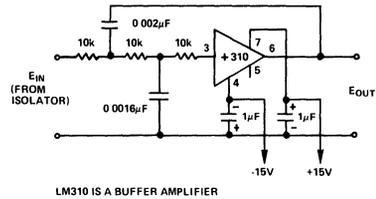

Figure 13. 2-Pole, 5kHz Active Filter
- G = 1V/V, with 2-pole, 5kHz output filter (see Figure 13).
Noise Reduction in Data Acquisition Systems: Transformer coupled isolators must have a carrier to pass dc signals through their signal transformers. Inevitably some carrier frequency ripple passes through to the isolator output. As the bandwidth of an isolator becomes a larger fraction of its carrier frequency, this ripple becomes more difficult to control. Despite this difficulty, the model 289 produces very low ripple; therefore, additional filtration will usually be unnecessary. However, in some applications, particularly where a fast analog-to-digital converter is used following the isolator, it may be desirable to add filtration; otherwise, ripple may cause inaccurate conversions. The 2-pole low-pass shown in Figure 13 limits isolator bandwidth to 5kHz, which is the full power bandwidth of the model 289. Carrier ripple is much reduced. Another beneficial effect of an output filter is smoothing of discontinuous high frequency waveforms.